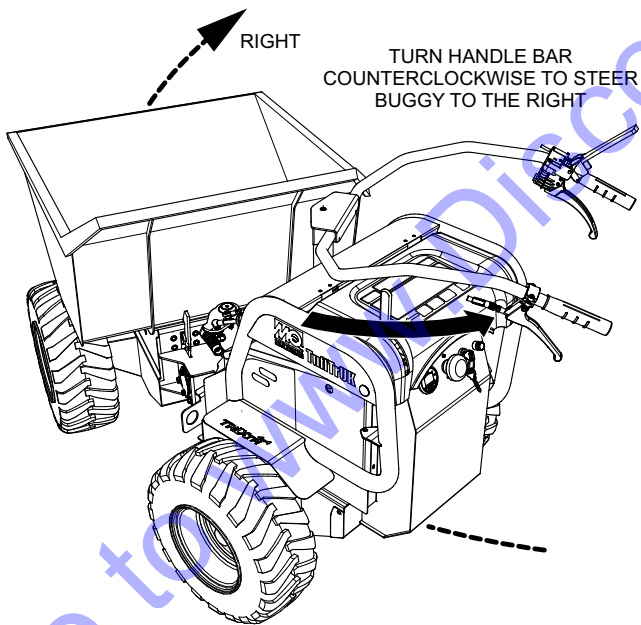

Figure 27. Steering the Buggy (CCW-Right)
2. To turn right (Figure 27) when traveling in the forward direction, turn the handle bar in the counterclockwise direction.